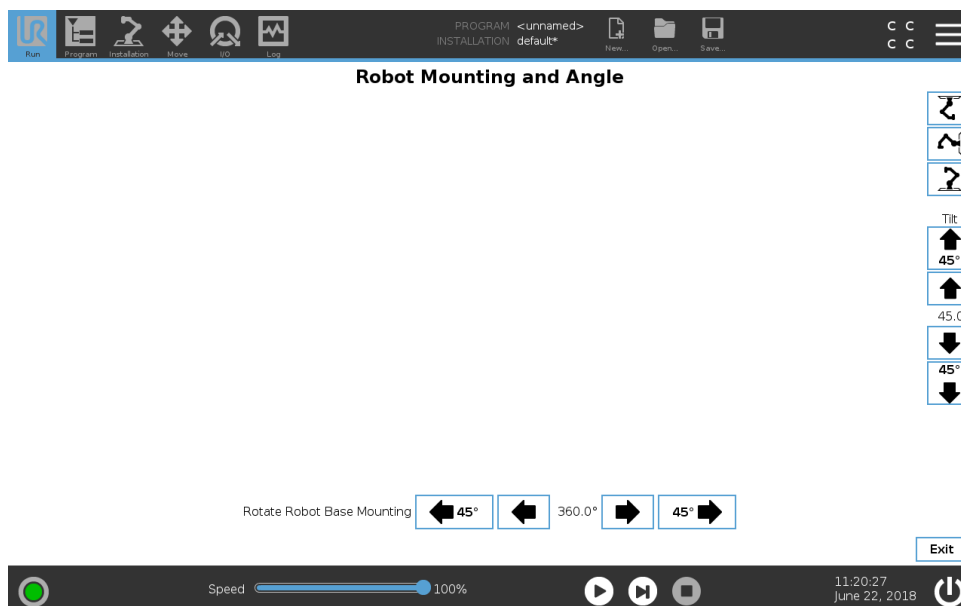

Figure 2.4: Mounting the robot
- (3) In the PolyScope Header, tap the **Installation Tab**.
- (4) Also in the PolyScope Header, tap New and select Installation.
- (5) Under General set the mounting and angle to 90 degrees for each robot and tap Exit (see Figure 2.4):